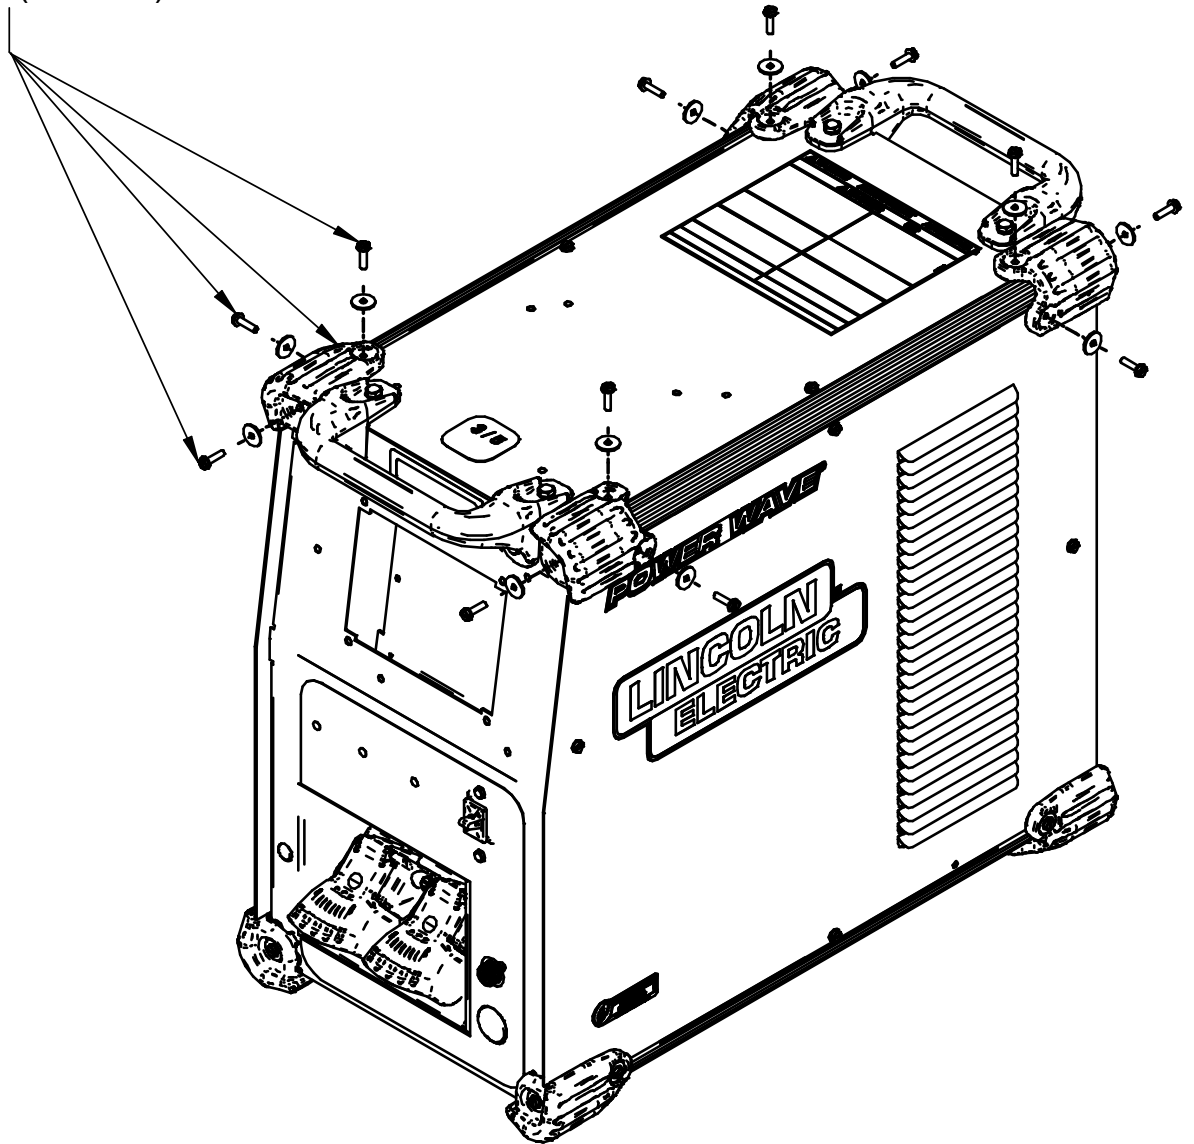

FIGURE 2
4. Remove the four top Corner Caps by removing the screws and washers mounting them, using a 5/16" nut driver or other suitable tool (**Figure 2**). Retain all mounting hardware for reinstalling the Corner Caps.